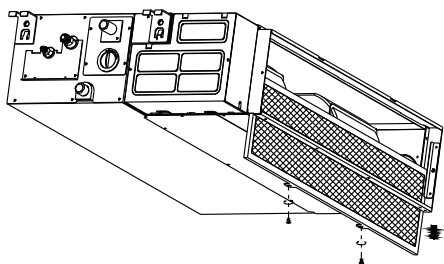

Fig.G1
1. For rear ventilated units, please remove the screws (2 pieces) fixed on the filter and take down the filter away from the unit. See Fig. G1.